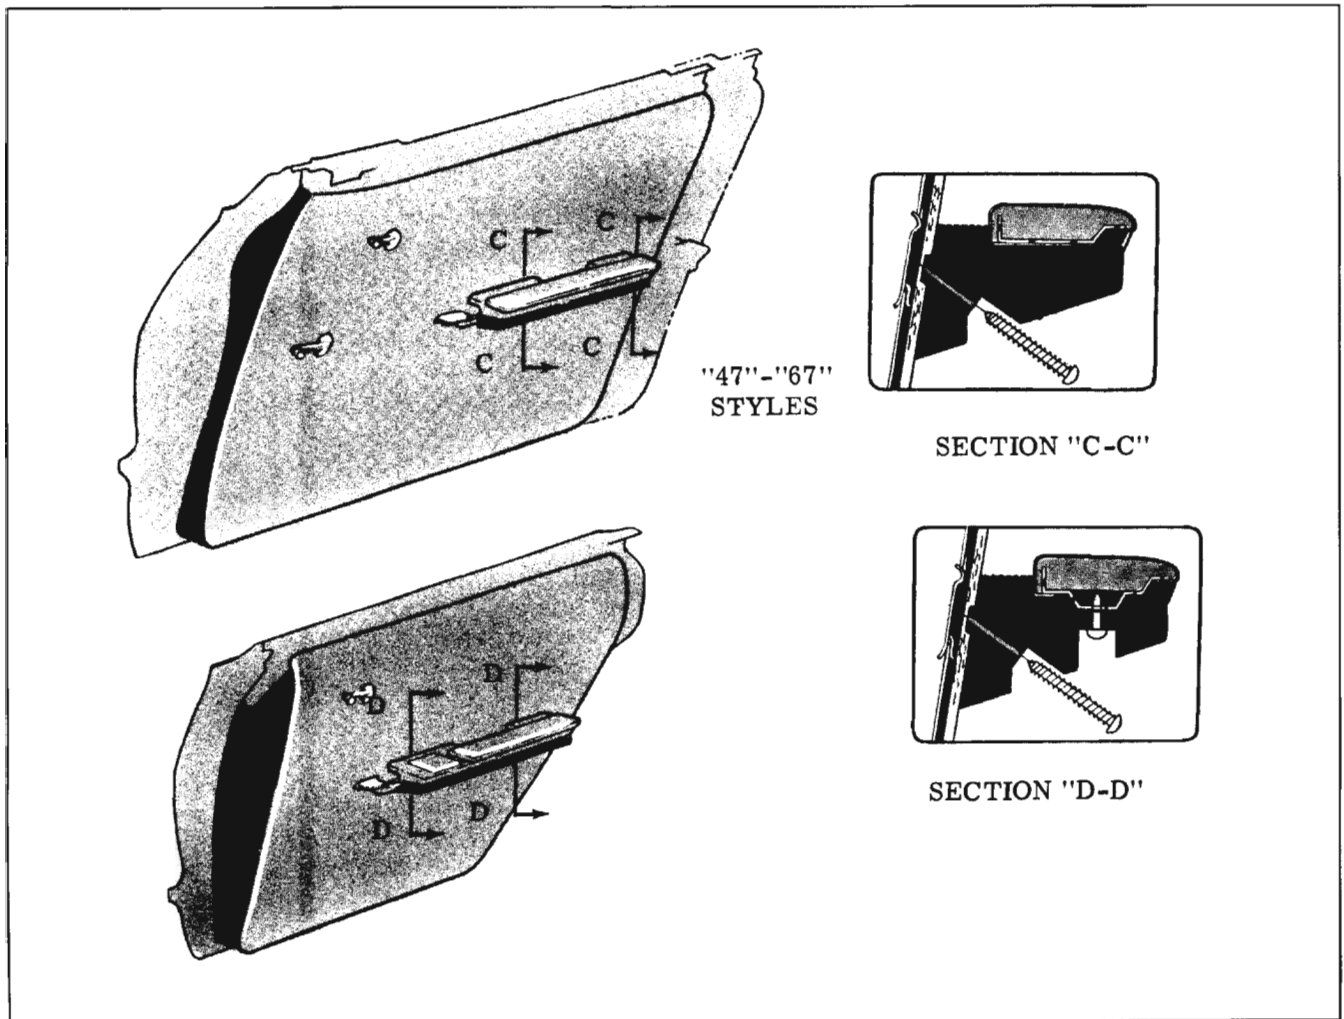

Fig. 16-16 Door Arm Rest Assemblies
1. Remove screws securing arm rest to door inner panel and remove assembly from door. (Fig. 16-16)